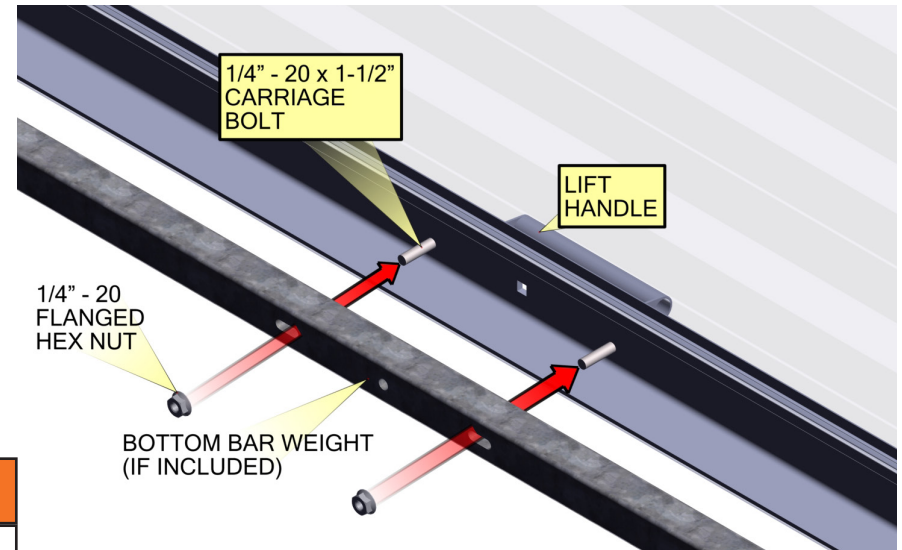

FIG 15
• Install a lift handle and the bottom bar weight (if included) centered on the coil or inside of the door using 1/4" - 20 x 1-1/2" carriage bolts and 1/4" - 20 flange hex nuts to assemble the handle, bottom bar, and bottom bar weight together. See FIG 15.